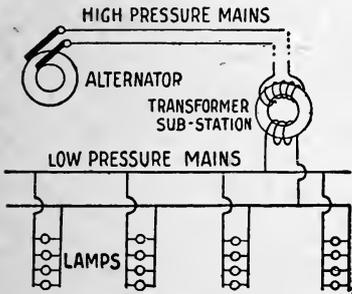

FIG. 54.
**130.** A transformer is usually well insulated and enclosed in a cast iron box which keeps it free from moisture. The high pressure currents are carried either from the central station to special sub-stations, (or transformer stations,) from where low pressure mains distribute the current to the houses, or the high pressure current enters each building in high pressure mains, and is transformed in the building by means of a transformer placed in the cellar. Such distributing systems are shown in figs. 54 and 55. Transformers are also placed on the poles carrying the wires.